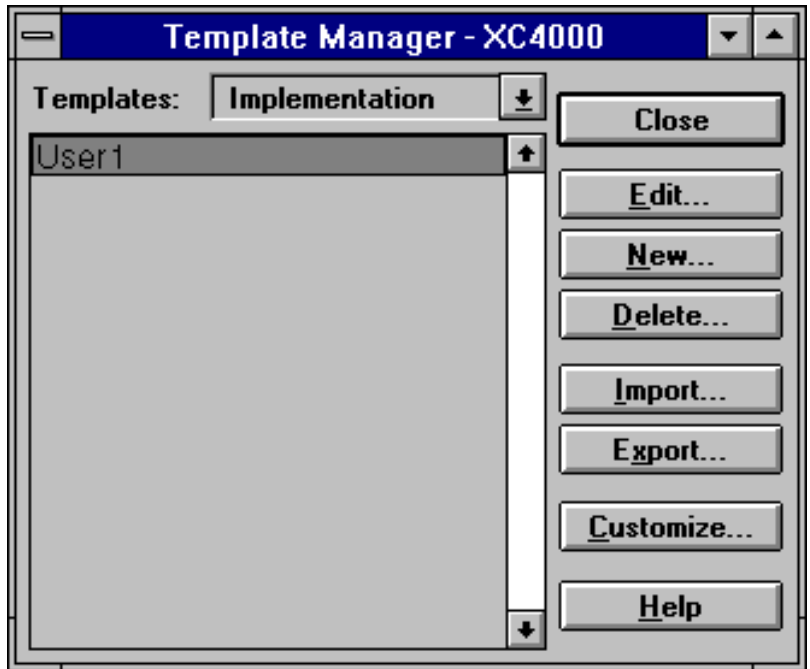

Figure 3-12 Template Manager
The Template Manager dialog box opens as shown in Figure 3-12.
The Template Manager dialog box opens (see Figure 3-12).
3. Select a template from the template list box in the Template Manager dialog box (see Figure 3-12).